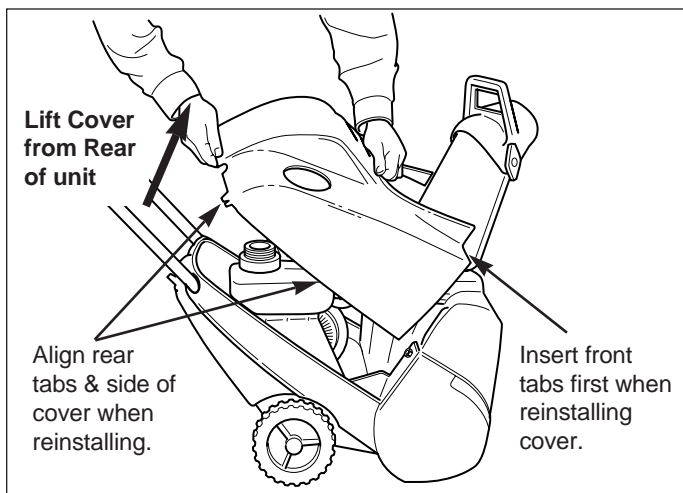

Figure 3. Cover Removal & Installation
- Remove the cover (see Figure 3).